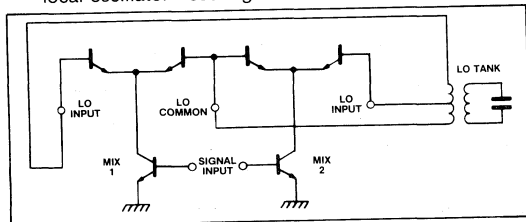

Fig.6 Local oscillator drive
2. **RF signal path.** This method has the advantage that greater isolation may be achieved from the signal to the local oscillator - see Fig.6.